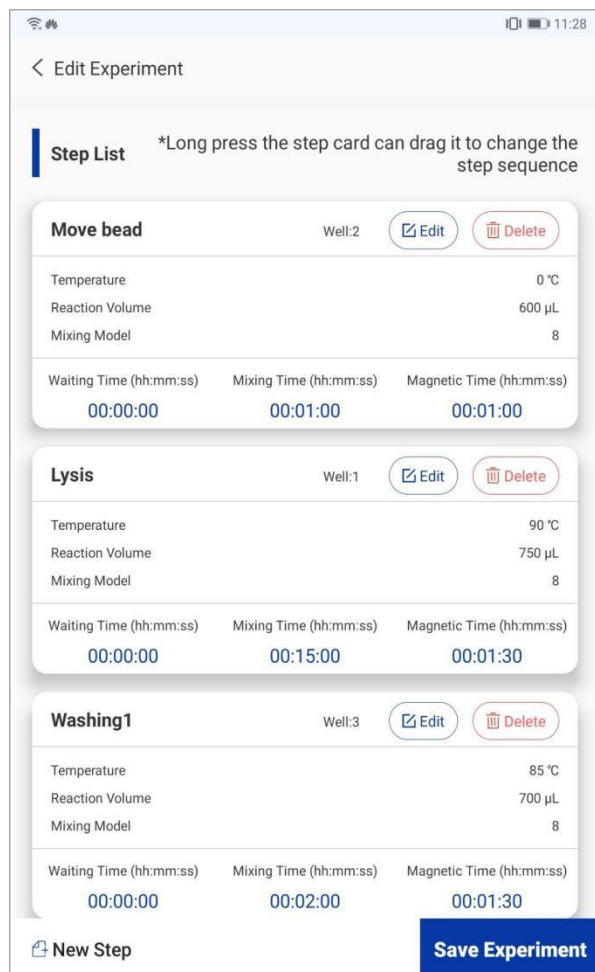

Figure 5-7. Experiment Interface - Edit Experiment Step and Parameter
- ▶ User can click < **Next Step** > to continue edit the experiment steps and parameters, as shown in figure 5-7.